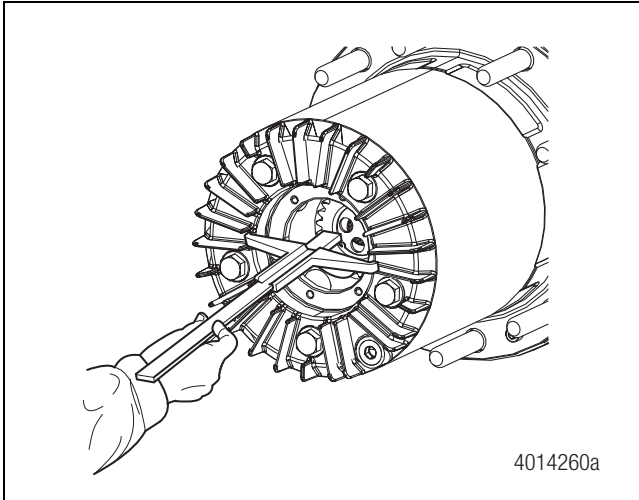

Figure 12.17
- A. Measure the distance between the sun gear thrust washer and the face of the hub housing. This is dimension A. Figure 12.17.